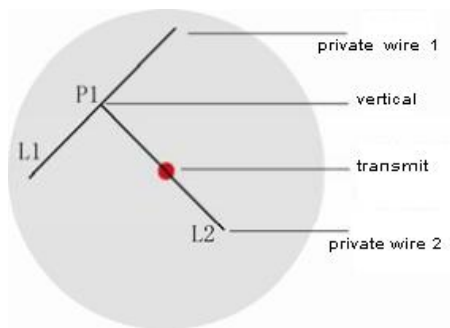

Figure 6.1 Test schematic
2) **One scan:** Determine a line L1 in the test area (as shown in Figure 6.1), and scan the receiving probe along the line L1 in the direction of increasing the signal value. When crossing the position P1 of the vertical point of the L1 and the transmitting probe The beeping prompt (while the panel LED is on), at this time, the receiving probe moves in the opposite direction along the line to find the position where the current value coincides with the automatically interpreted thickness value (or the peak value of the signal value), that is, point P1.